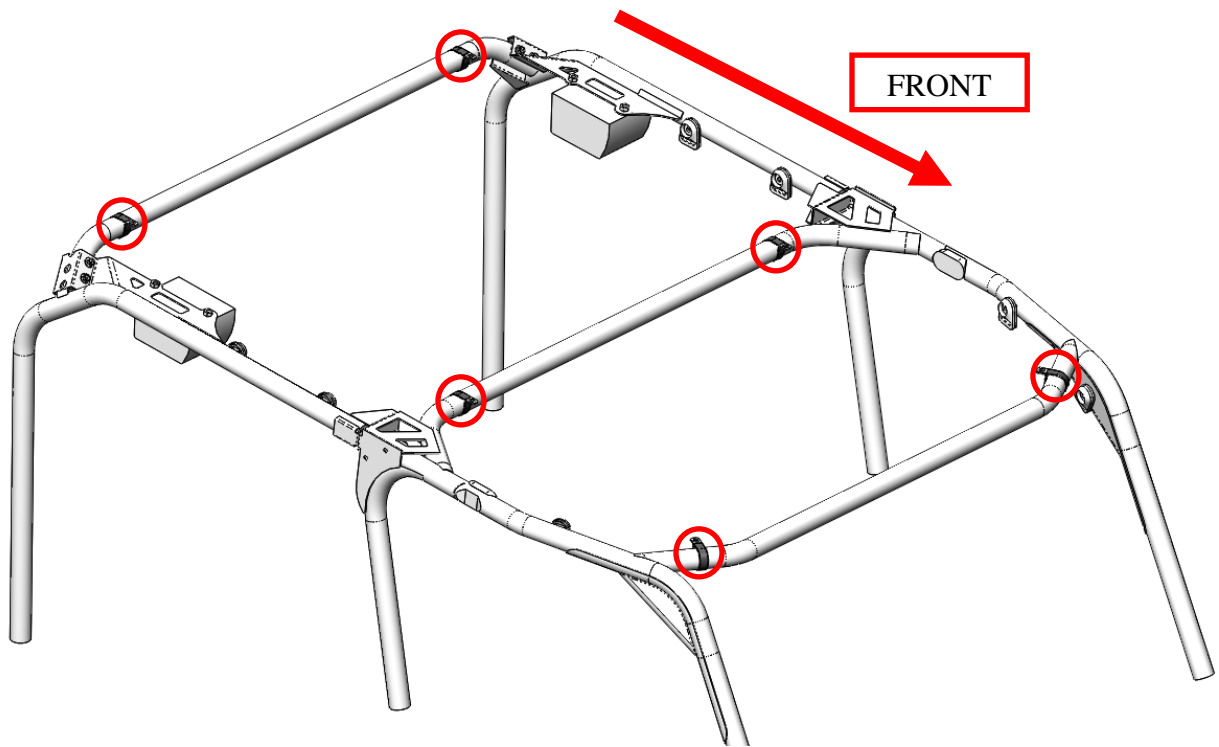

Figure 6: Approximate clamp locations on the cage.
3. Spread the clamps by hand, and slide them over the cage tubing. Place them on the cage in the approximate locations shown in Figure 6. Note the orientation of the clamp tab. It must line up with the hole, flat against the top, on the correct side of the tubing.